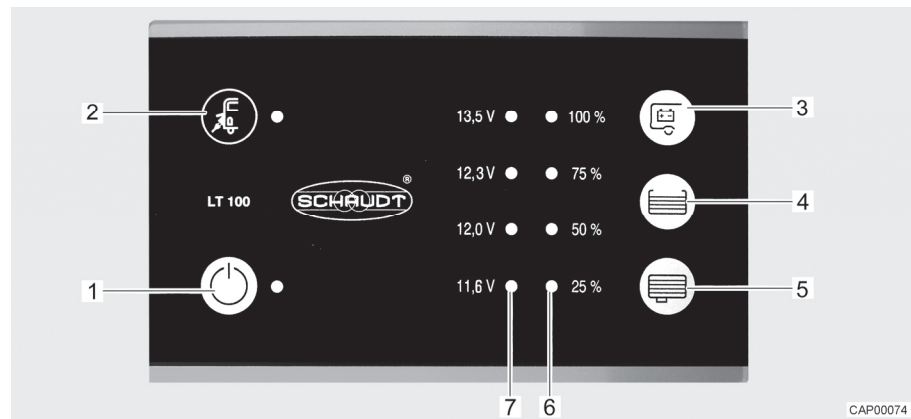

Fig. 50 Panel (LT 100)
The yellow LED at the mains connection symbol "⚡" (Fig. 50,2) is lit when the vehicle is connected to an external mains supply. In this case, the LED will also be lit when the panel is switched off.
The 12 V main switch (Fig. 50,1) switches the panel and the 12 V power supply of the living area on and off.
- Press switch "⏻" (Fig. 50,1): The 12 V living area power supply is switched on. The LED lights up green.
- Press switch "⏻" (Fig. 50,1) again: The 12 V living area power supply is switched off. The LED goes out.
The LED array (Fig. 50,7) displays the battery voltage of the living area battery as follows:
- Press the button "⏻" (Fig. 50,3): the battery voltage of the living area battery is displayed.
The LED array (Fig. 50,6) displays the fill level of the fresh water tank or of the waste water tank.
Press the button "☰" (Fig. 50,4): The fill level of the fresh water tank is displayed by lit LEDs.
Press the button "☷" (Fig. 50,5): The fill level of the waste water tank is displayed by lit LEDs.